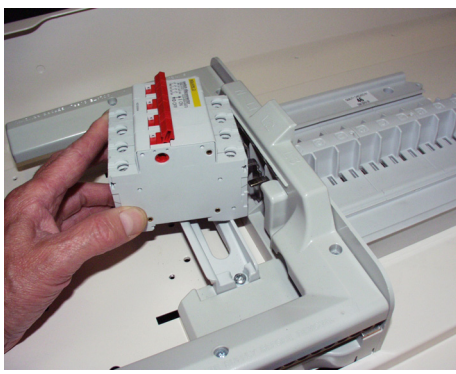

Fig 1
- Position the top load side terminals of the device over the incoming stabs and push fully home.(Fig 1)